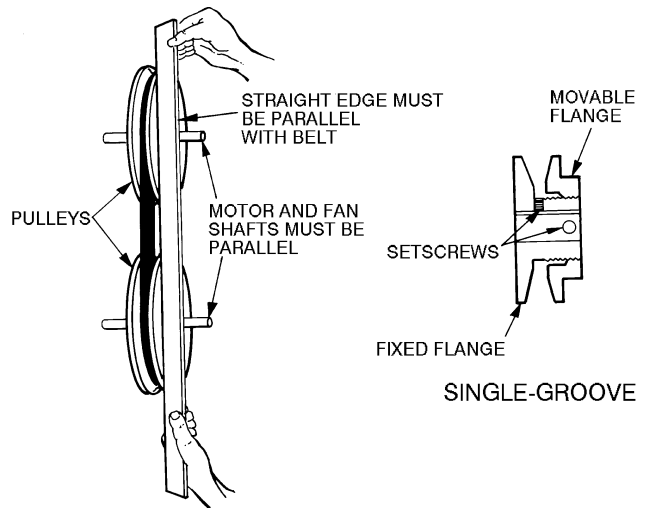

Fig. 37 — Evaporator-Fan Pulley Adjustment
3. Loosen movable pulley flange setscrew (see Fig. 37).